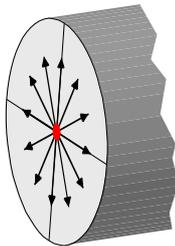
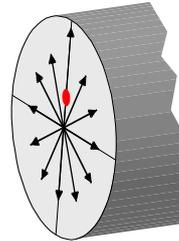

Figure 1:
Figure 2:
**How an unbalance evolves** When a machine part is set in rotation, all mass particles will generate a centrifugal force. If the sum of these force vectors becomes zero, no dynamic force will load the bearings. The rotor is completely balanced. If the sum of force vectors is not zero a centrifugal force remains which will transmit vibration into the bearings (Figure 1 and Figure 2).